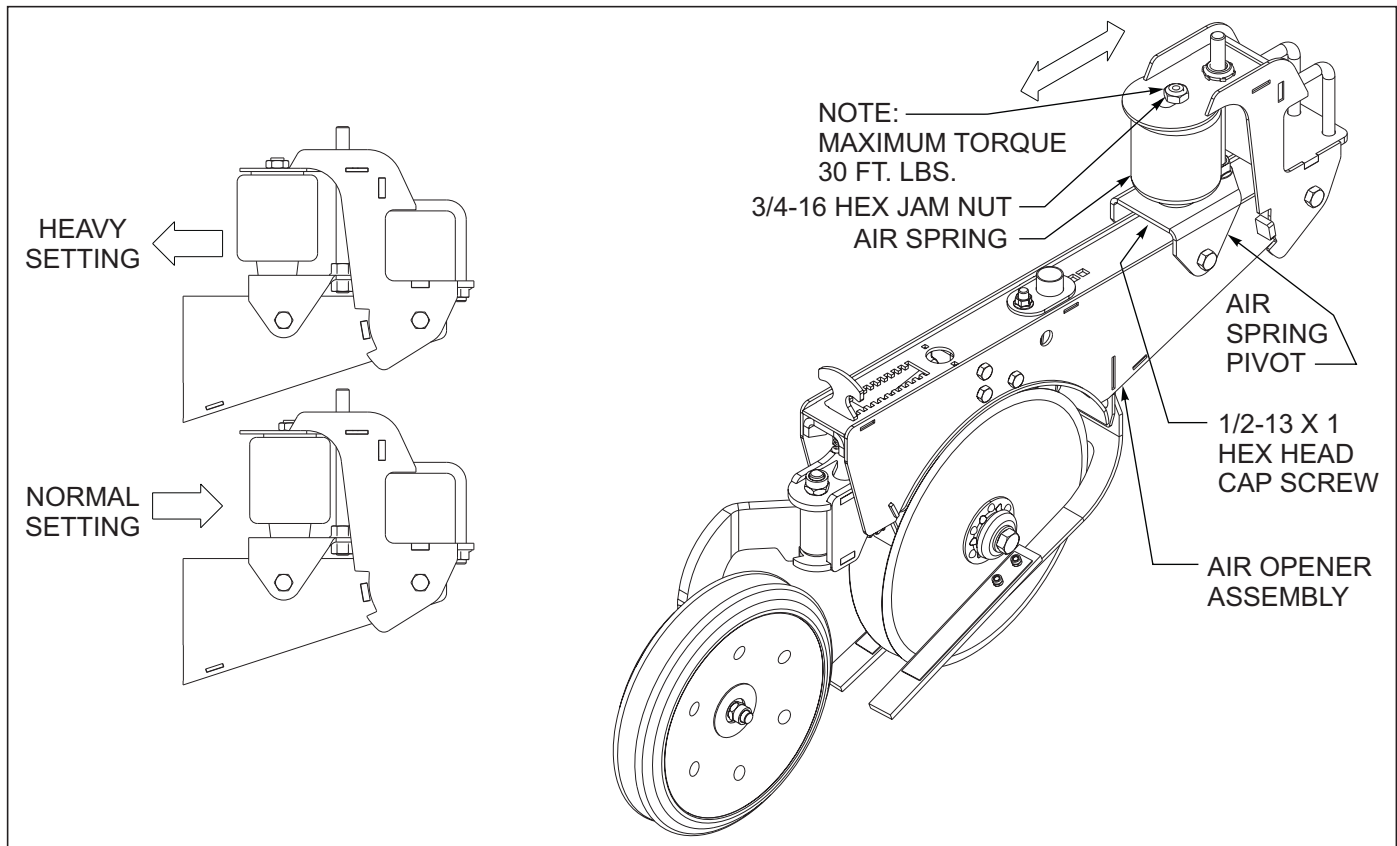

Figure 4-22: Air Spring Adjustment
2. To adjust the air spring location, first relieve the system air pressure. Loosen, but do not remove the 3/4-16 hex jam nut at the top of the air spring and the 1/2-13 x 1 hex head cap screw below the air spring and air spring pivot. Slide the air spring forward or rearward to the desired location *See Figure 4-22*.